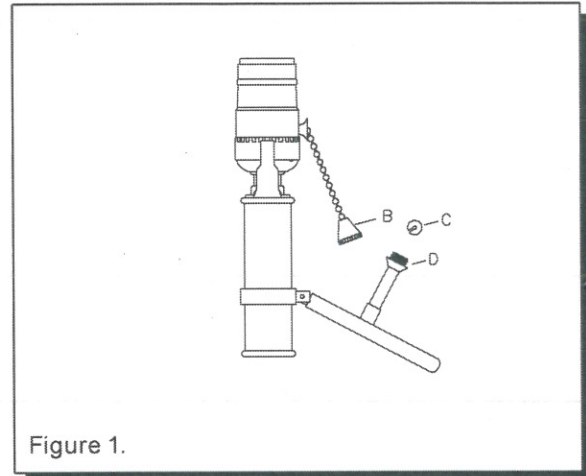

Figure 1.
- After rewiring is done untwist B cap as shown in Fig.1 and take off the C clip from the ball chain.
- Cut excess ball chain and re-attach B cap to D threaded base as shown in Fig.1.